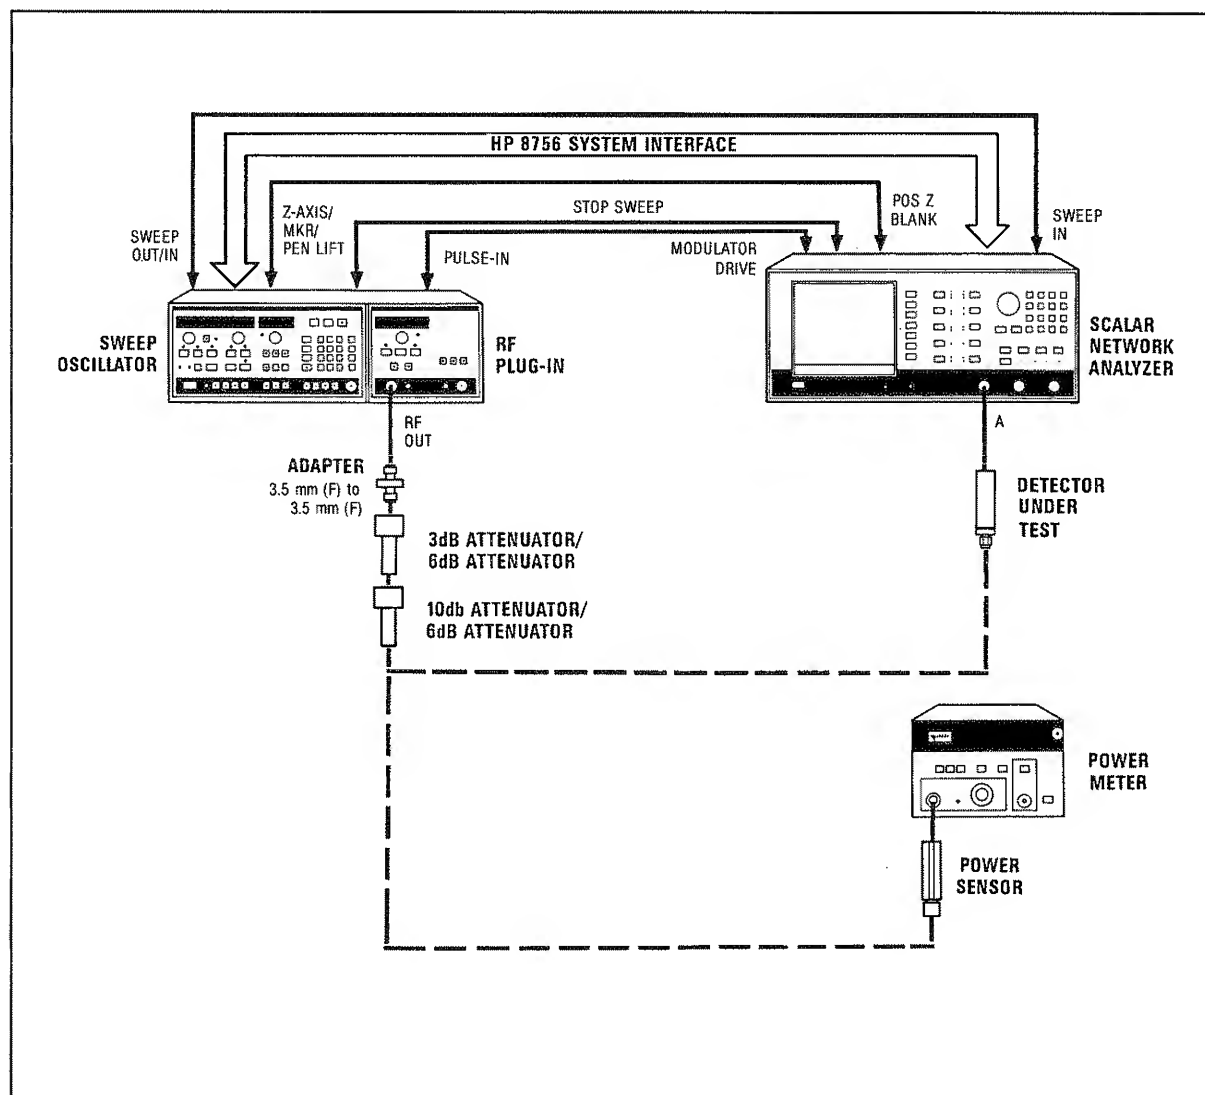

Figure 10. Flatness Test Setup
1. Set up the equipment as shown in Figure 10, with nothing connected to the attenuated output of the source.